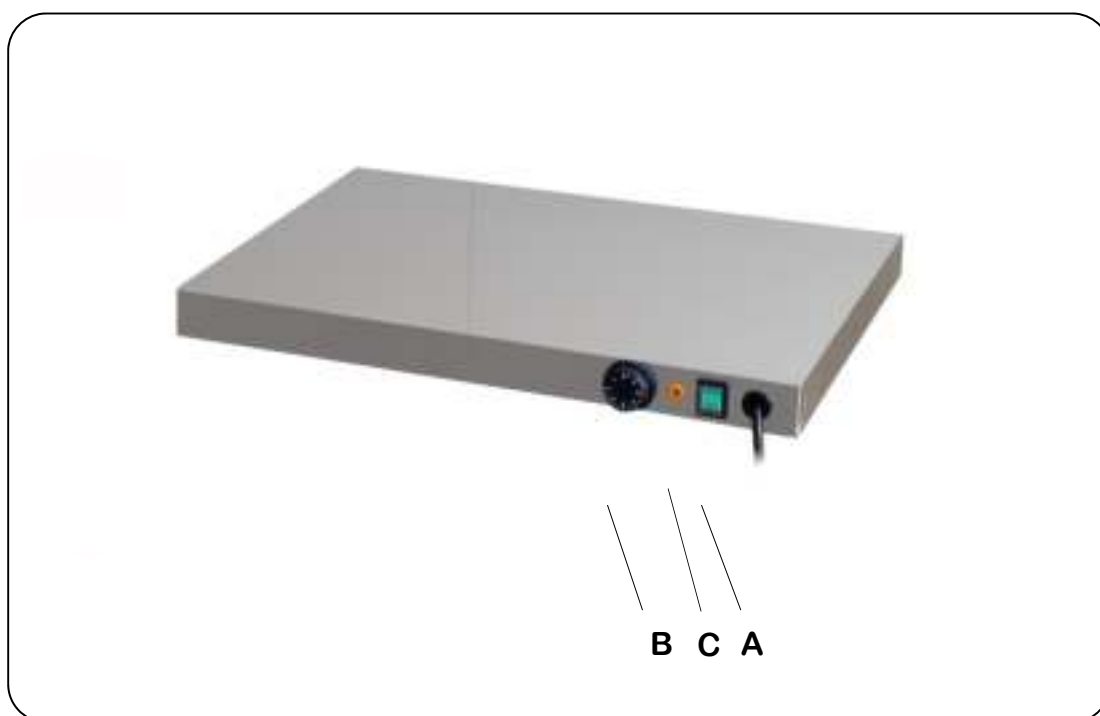

Fig.1
1. Put the plug into the power socket and turn on the main switch (A ref.1).
2. Turn the thermostat (B fig.1) until the temperature setting required is reached. The heating light (C fig.1) will come on and will go off when the set temperature is reached.